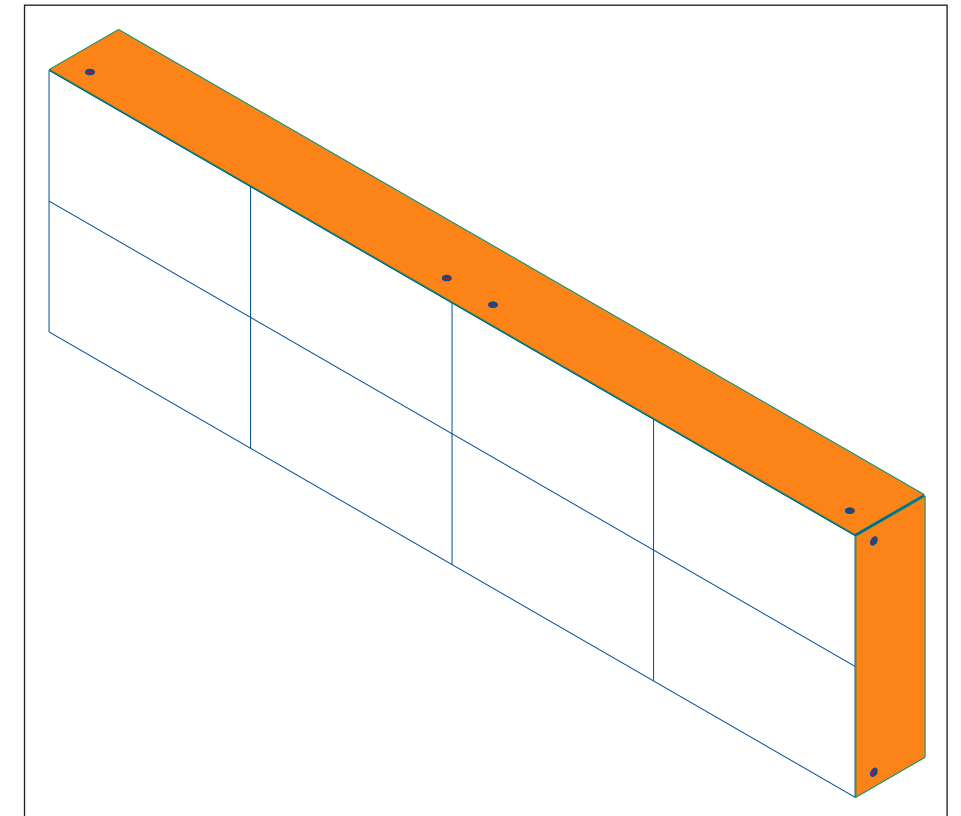

Figure 4: Attached Flat Border
5. Use a 2.5 mm hex key (TH-4747832) to attach the M4-0.7 x 6 mm machine screws (HC-4729087), fastening the border to the panel perimeter in all pre-punched hole locations on the border. Each panel has threaded holes for borders on all four sides. Refer to **Figure 4** for the finished appearance.